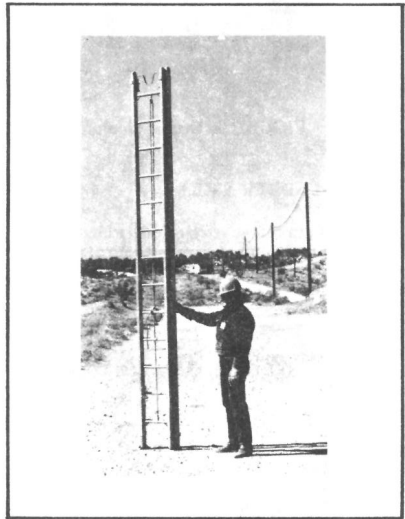

FIGURE 1. Standard Wood Extension Ladder
1.02 This practice provides the proper and safe procedures for handling the various types of wood extension ladders and attachments presently used in the Continental Telephone System. Figure 1 shows a standard wood extension ladder.
**4.01** Use only **standard** extension ladders (Figure 1). **Do not use ladders with broken or missing rungs, broken side rails, broken locks, or defective ladder ropes.**